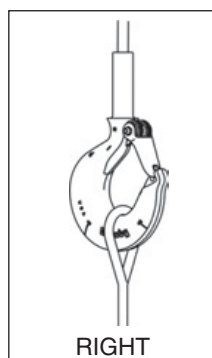
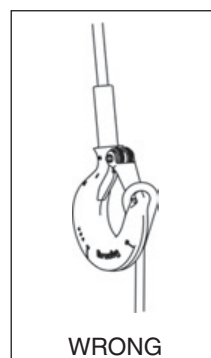

Figure 3
Figure 4
- When placing two (2) sling legs in hooks, make sure the angle between the legs is less than 90° and if the hook or load is tilted, nothing bears against the bottom of this latch (See Figures 3 & 4).
- Always make sure the hook supports the load (See Figure 3). The latch must never support the load (See Figure 4).